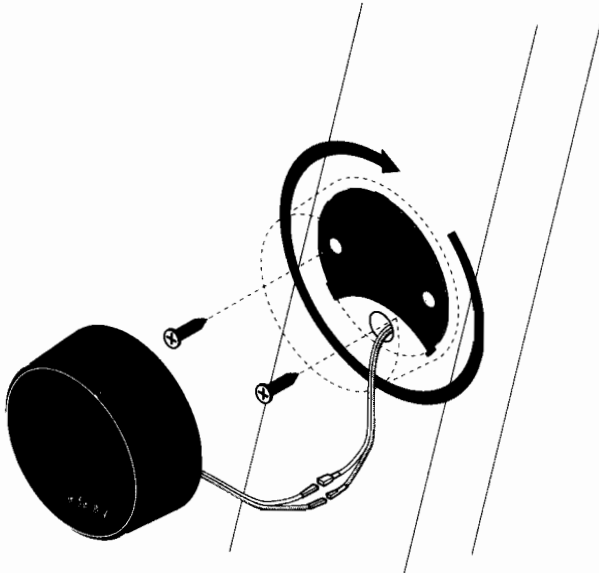

Figure 6. Installing an RS tweeter. After installing the mounting plate, lock the tweeter onto the plate with a clockwise eighth-turn.
To install RS tweeters, refer to Figure 6 as you perform the following steps:
1. At the chosen sites, use the crescent-shaped mounting plate to mark locations of mounting holes and feed-through hole for speaker wires. Refer to Figure 5 for correct orientation. A $\frac{5}{16}$ " diameter hole is required to pass the tweeter wires and pre-attached terminals. Make sure the proposed hole will not extend beyond the boundary of the tweeter enclosure (see Figure 6).